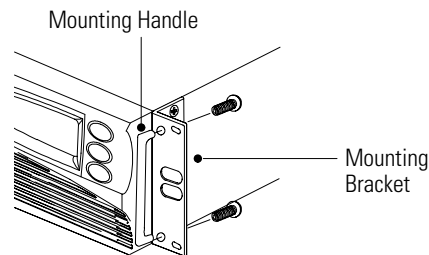

Figure 2. Installing the Mounting Handles
2. Attach the supplied mounting handles to the mounting brackets (see Figure 2).